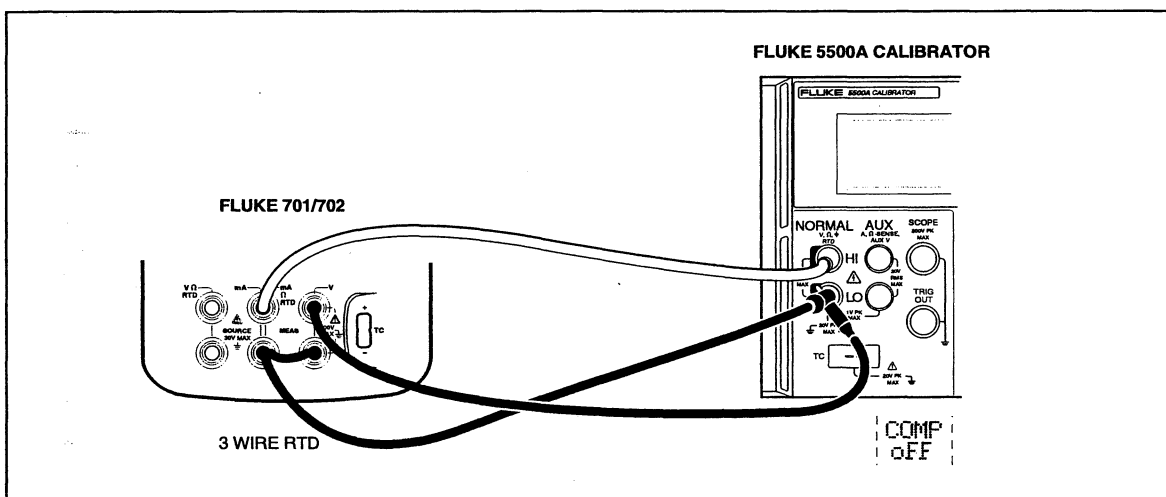

Figure 3-13. Three-Wire RTD Measure Verification Connections
1. Connect the UUT to the 5500A as shown in Figure 3-13.
2. Set the UUT to the RTD measure function, Pt100 (385), 3 Wire.
3. Set the 5500A to source an RTD, Pt100 (385) at -200°C.